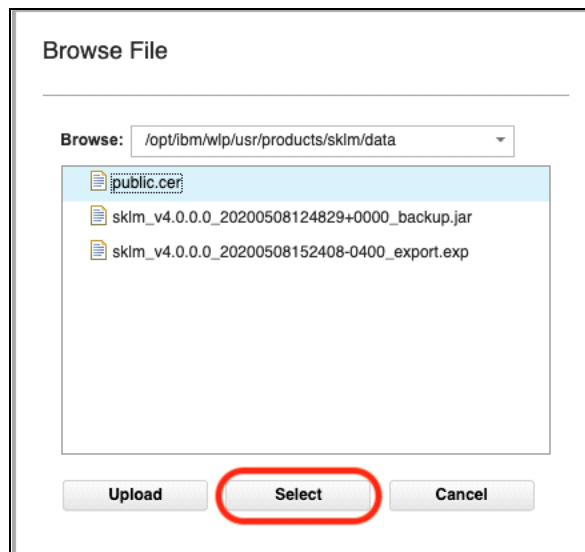

Figure J-14 Selecting uploaded certificate file
- Now that the certificate file is uploaded from your computer to the IBM Security Guardium Key Lifecycle Manager, select it from the Browse File list (see Figure J-14).